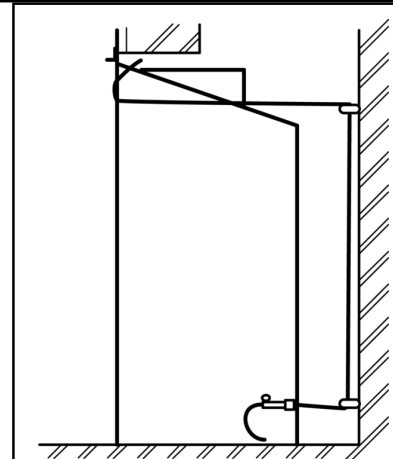

Figure 20. Cable route
**6.** Thread the cables through the eyebolts. Return the cables through the holes near the bottom of the convection box back panel (See figure 20) (**For precast or clay block flue systems return the cables through the slotted holes in the side of the convection box**).